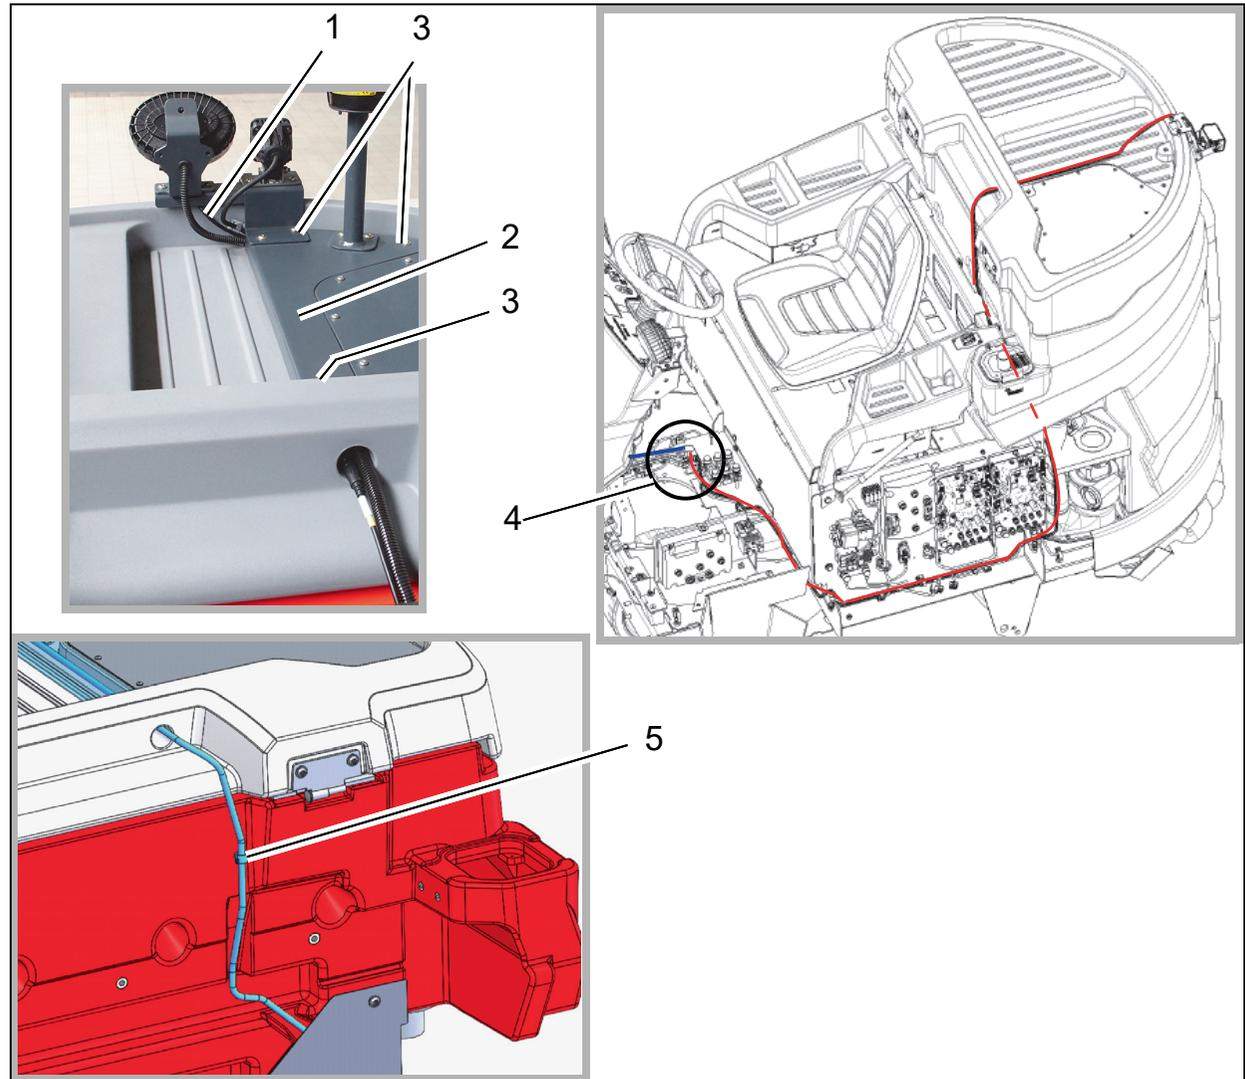

Fig. 7
1. Route the camera cable underneath the options bridge (Fig. 7/1).
2. Cover the video cable with the cover plate (Fig. 7/2).
3. Attach the cover plate to the tank cap using three M6x12 flanged button head bolts (Fig. 7/3).
5. Connect the camera cable to plug CAM4 of the monitor cable (Fig. 7/4). CAM1-3 are not used.
6. Fix corrugated hose with corrugated hose holder (Fig. 7/5).